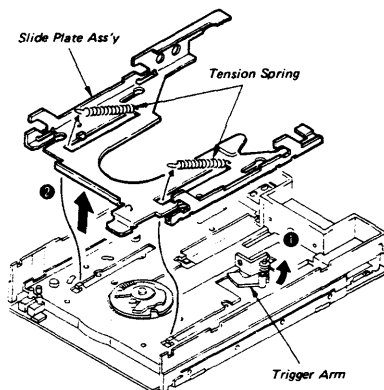

Fig. 4-7 Slide Plate Ass'y Replacement
- d. Slide the trigger arm to set the Disk In-mode as shown in Fig. 4-7.
- e. Remove the one end of Tension Springs on chassis ass'y and then take the Slide Plate Ass'y. (Refer to Fig. 4-7)
- a. While pushing the trigger arm, set the Slide Plate Ass'y into the location shown in Fig. 4-7.